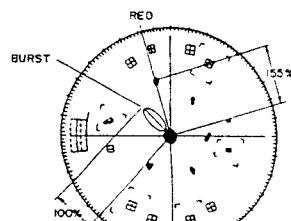

Fig. 4-45
- When using a vectorscope (Fig. 4-45)
- 3) Press the **[U]** and **[D]** keys so the red vector is  $155\% \pm 10\%$ . (Fig. 4-45)